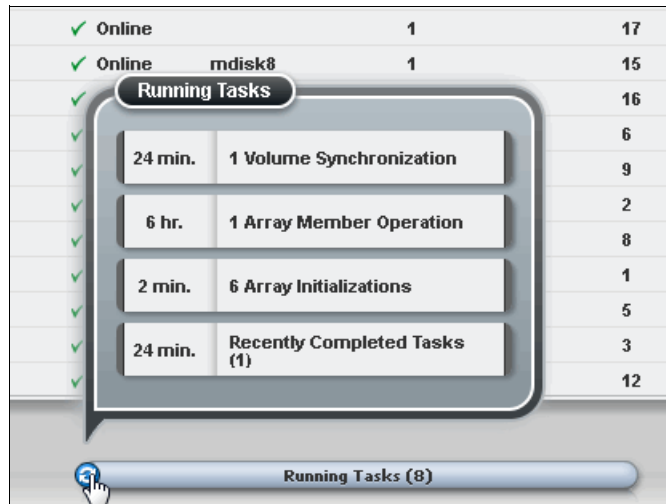

Figure 7-27 Running task pane
- After an array is created, the Array MDisk members are synchronized with each other through a background initialization process. You can monitor the progress of the initialization process by clicking the icon at the left of the Running Tasks status bar and selecting the initialization task to view the status, as shown in Figure 7-27.